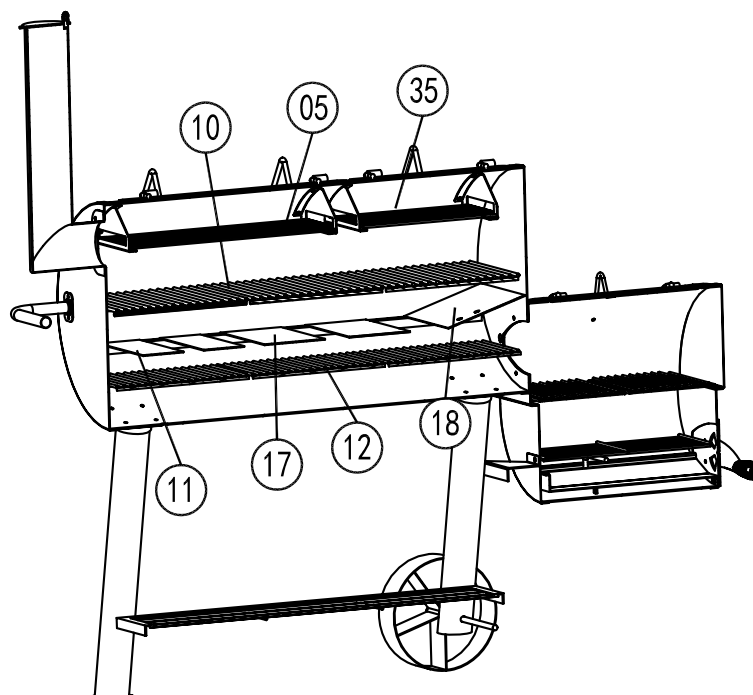

fig. 16
- Fit the 3 charcoal grates (12) into the bottom of the cooking chamber (9) as shown in fig. 16 below.
- Fit baffles (11, 17 & 18) above the charcoal grates (12) in the cooking chamber (9).
- Fit 3 cooking grills (10) into the cooking chamber (9) above the baffles (11, 17 & 18).
- Fit the large warming shelf (5) and the small warming shelf (35) into the cooking chamber (9).
- Fit the firebox charcoal grates (30) into the bottom of the firebox unit (28 & 32).
- Fit the 2 firebox cooking grills (31) above the firebox charcoal grates (30) in the firebox unit (28 & 32).